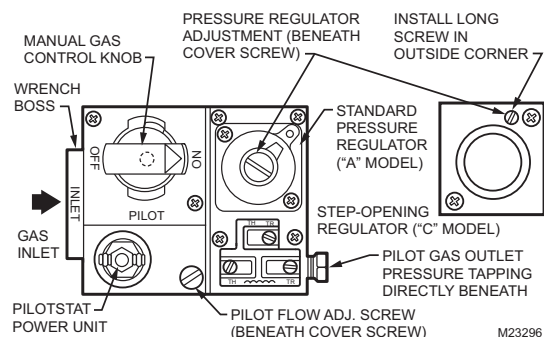

Fig. 6. Top View of Standard Capacity Gas Control.
- Connect pipe to control inlet and outlet. To tighten inlet and outlet connections, use wrench on projecting wrench boss (See Figures 6 and 7).
- Unscrew brass compression fitting from pilot gas outlet (Figures 6 and 7). Slip fitting over tubing and slide out of way.
The thermocouple connection to the power unit or electrical cut-off (ECO) connector (Figures 6 and 7) is an electrical connection and must be clean and dry. Never use pipe compound. Tighten only 1/4 turn beyond finger tight to give good electrical continuity.